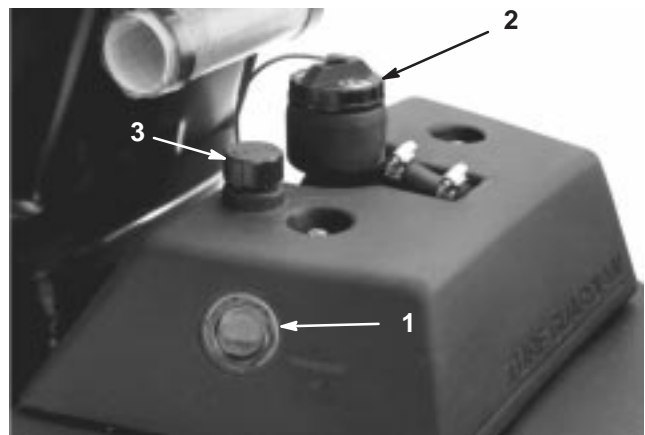

Figure 17
1. Position the machine on a level surface. Make sure the machine has cooled down so the oil is cold. Check the oil level by viewing the sight gauge on the side of the auxiliary oil tank (Fig. 17). If the oil level is up to the Full mark next to the gauge, the oil level is sufficient.